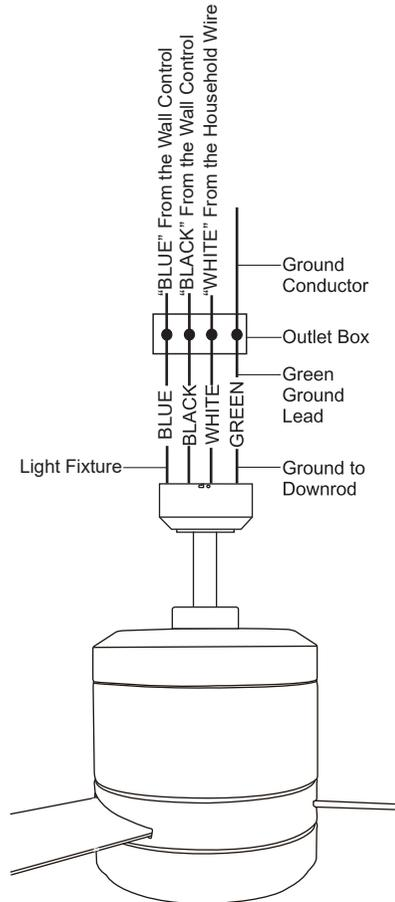

Fig.13
Step 4 Connect the green wire from the fan to the green wire from the household ground wire.(Fig.13 )